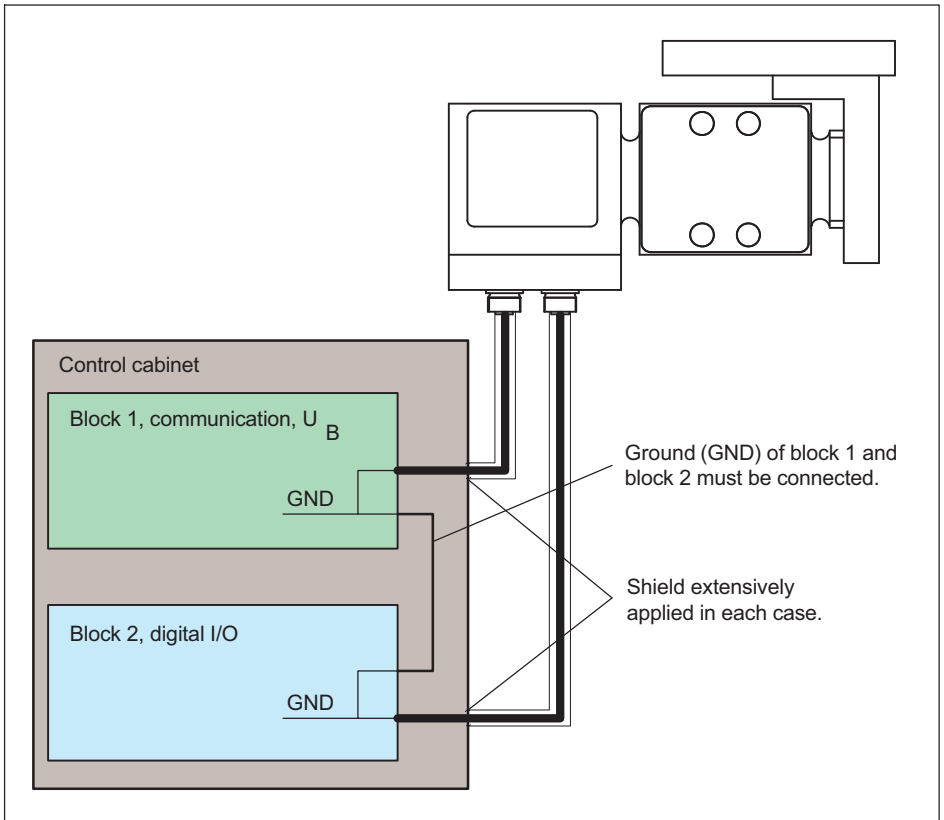

Fig. 7.2 Connecting GND potentials for a mounting inside a control cabinet
2. Both function blocks are inside a control cabinet (Fig. 7.2).
When mounting all the function blocks inside a control cabinet, (Fig. 7.2 on Page 17), make sure that the GND potentials of both blocks are connected.